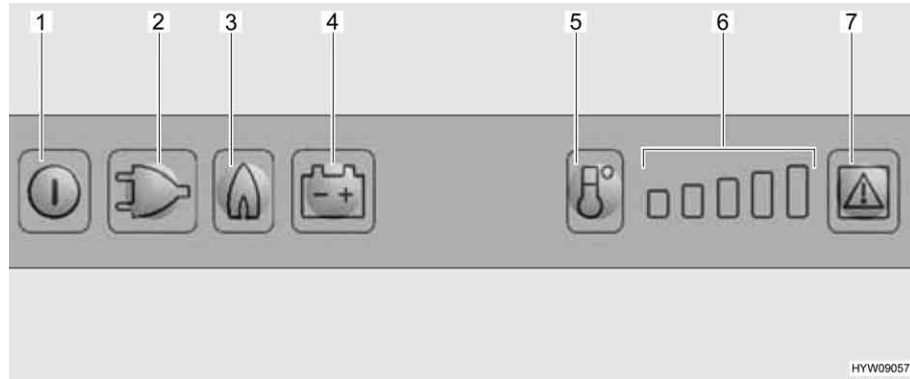

Fig. 176 Operating controls for the refrigerator
- Press and hold the On/Off button (Fig. 176,1) for about 2 seconds. The refrigerator switches itself on. The button of the operating mode chosen most recently lights up.
- If necessary, press the button for the operating mode "Gas" (Fig. 176,3). The button lights up. Gas supply is open. Ignition will take place automatically. A ticking sound can be heard until ignition has been completed successfully.
- Use the temperature range selection button (Fig. 176,5) to set the refrigerating temperature.
- If necessary, press the button for the operating mode "230 V" (Fig. 176,2). The button lights up.
- If necessary, press the button for the operating mode "12 V" (Fig. 176,4). The button lights up.